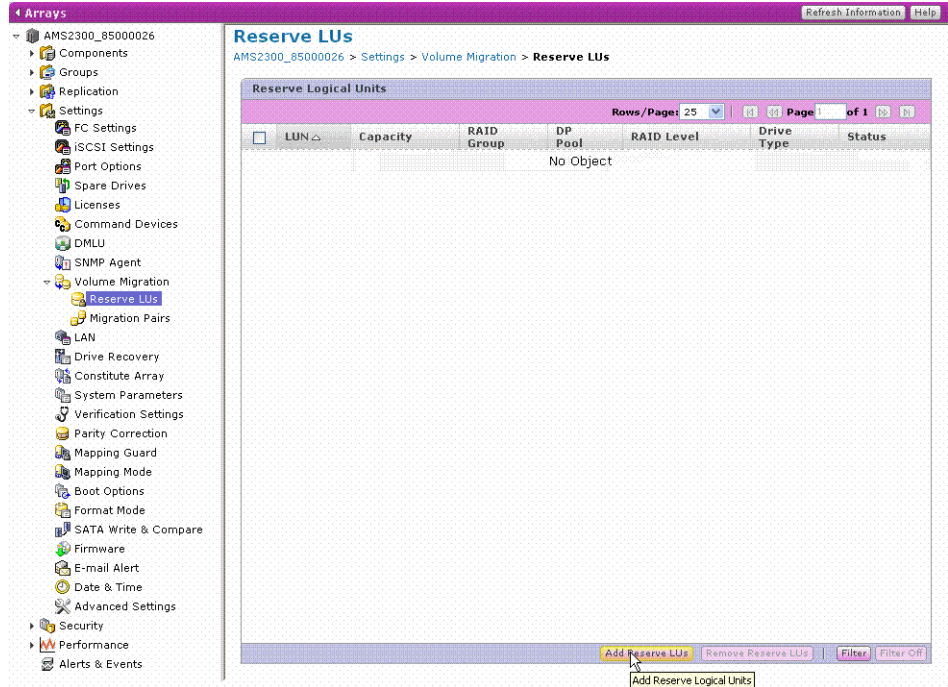

Figure 11-11: Reserve LUs dialog box
- Select the **Reserve LUs** icon in the Volume Migration tree view as shown in Figure 11-11.